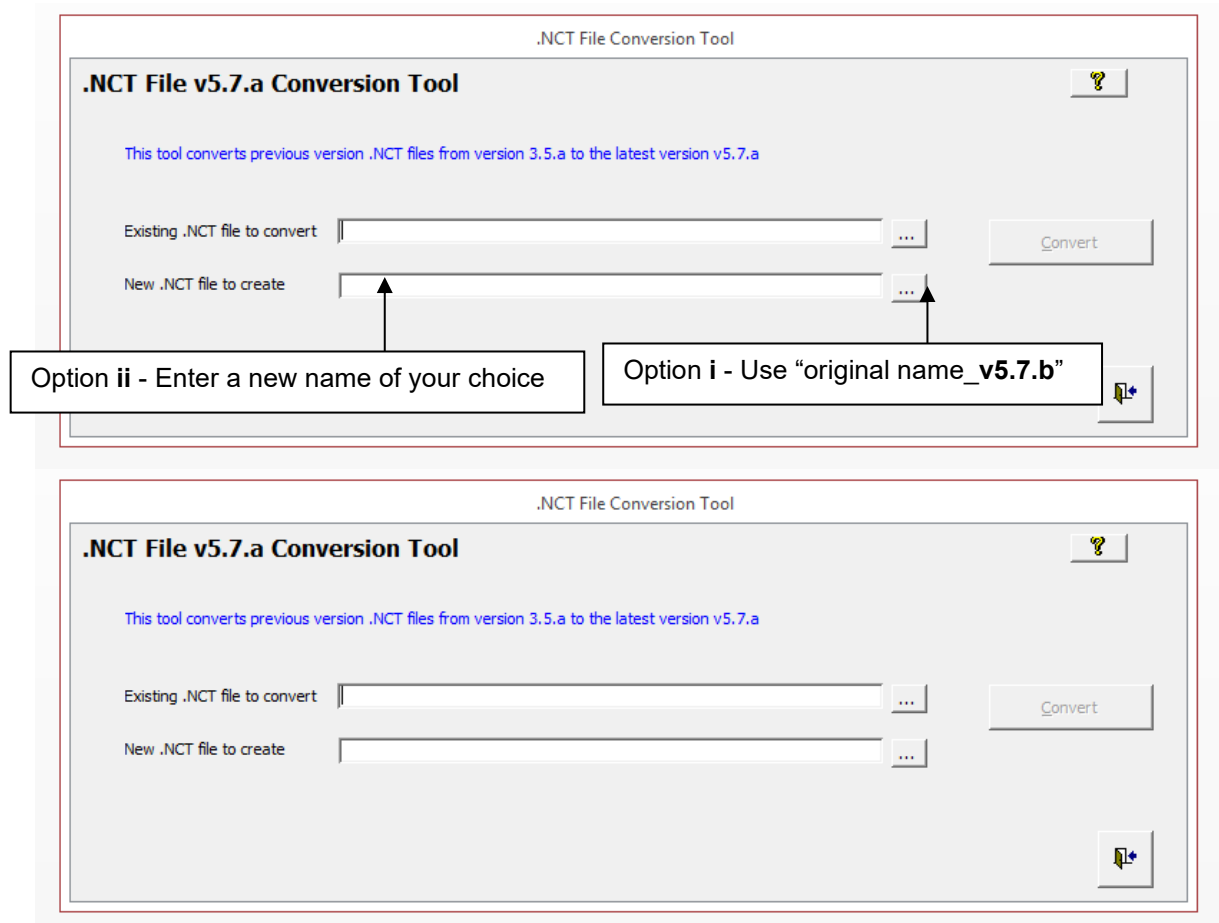

Figure 19: Naming the new file
- i. Click on the button shown in Figure 19. This opens a dialogue box (the same as in stage 2). Re-select the file you are converting and click on 'Save'. The new file will automatically be given the name: "original file name_v5.7.b.nct". The original file will not be over-written by the conversion tool, and you should keep it for future reference.
- ii. If you want to give the converted file a new name of your own, type a new name and its full path into the field (shown in Figure 19).